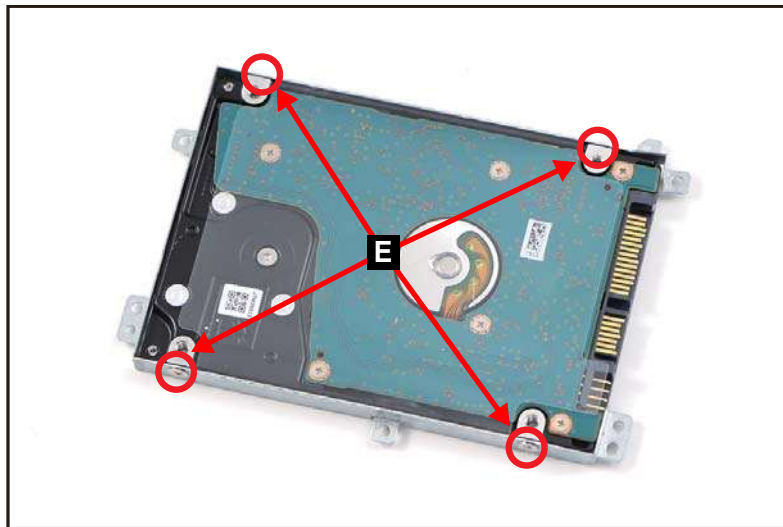

Figure 3-37. HDD Module Removal
5. Remove four (4) screws (E) from the HDD bracket (Figure 3-37).